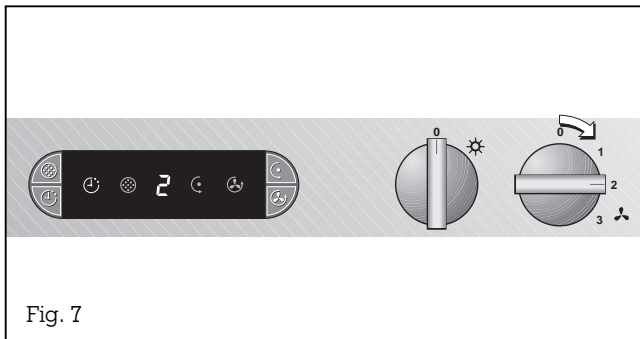

Fig. 7
- Turn the “Ventilation level” control knob to the ventilation level you require (Fig. 7).